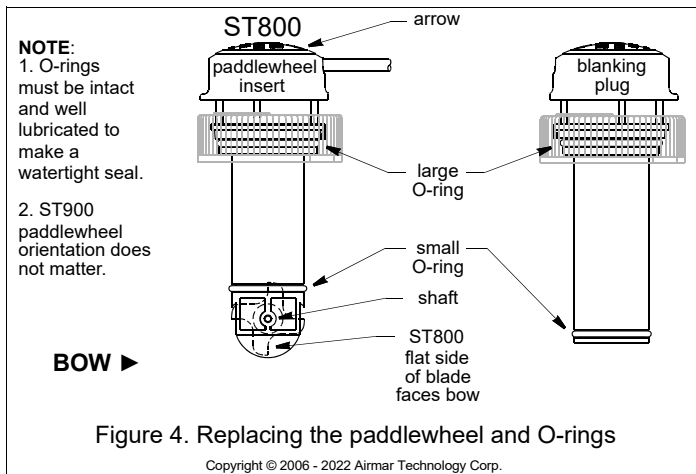

Figure 4. Replacing the paddlewheel and O-rings
1. *All the O-rings must be intact and well lubricated to make a watertight seal.* On the blanking plug, inspect the O-rings (replace if necessary) and lubricate them with the silicone lubricant supplied or petroleum jelly (Figure 4).
1. Using the new shaft, push the old shaft out about 6mm (1/4"). With pliers, remove the old shaft (Figure 4).